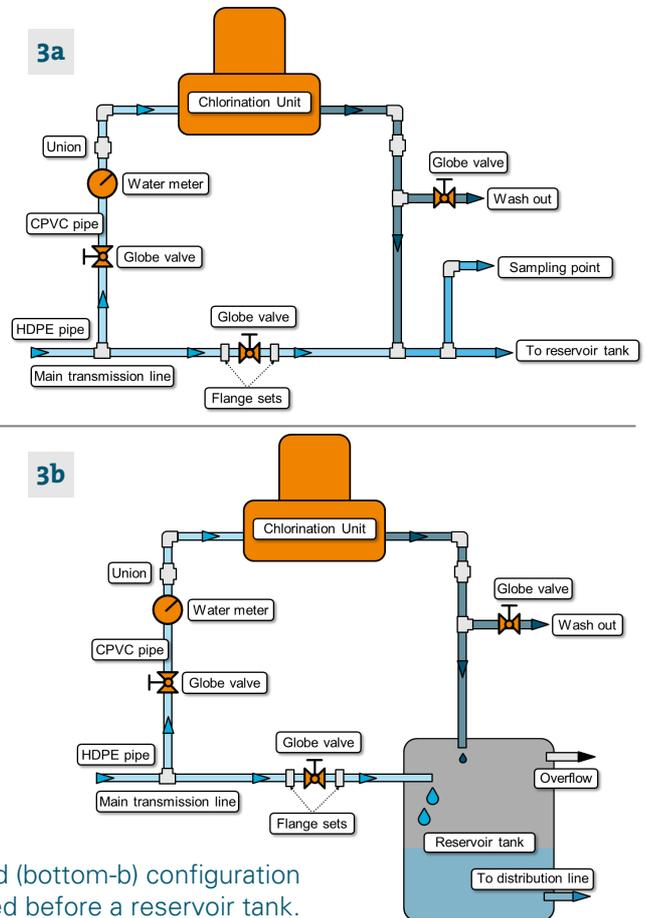

Figure 3: Closed end (top-a) and open end (bottom-b) configuration of a passive chlorinator installed before a reservoir tank.
- **Refer to system diagram** in **Figure 3** for correct positioning and connections (open or closed end).